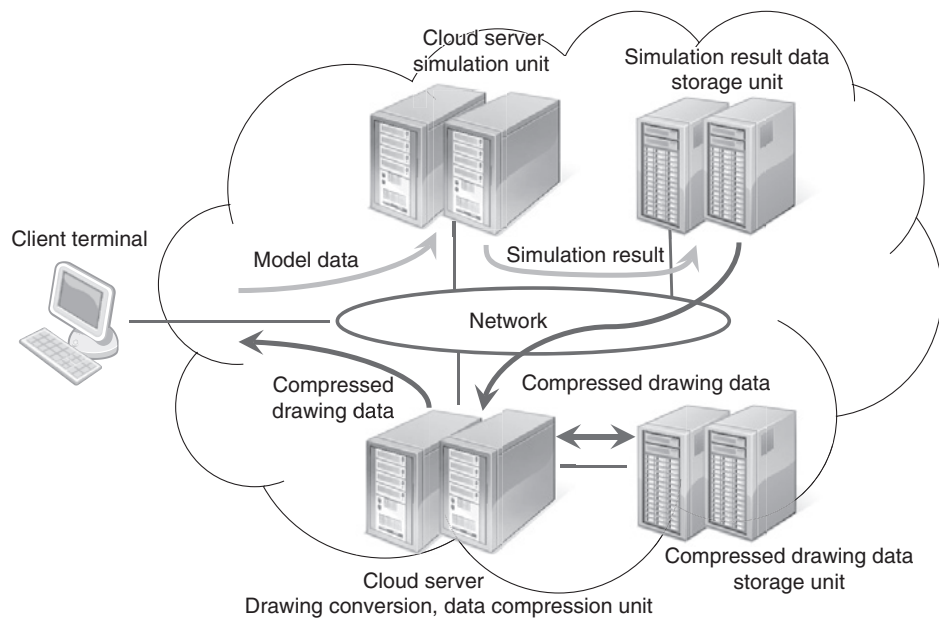

Figure 7
- 2) For high-speed conversion to drawing data, which has high computational complexity, and data compression, it processes data with a data processing unit provided in the cloud server exclusively for drawing conversion and data compression (Figure 7).